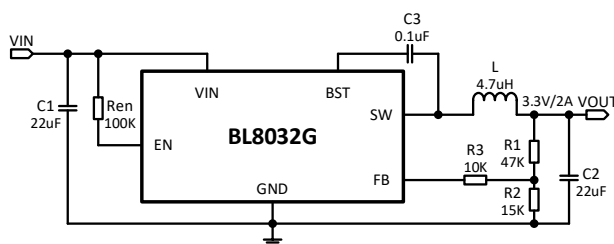
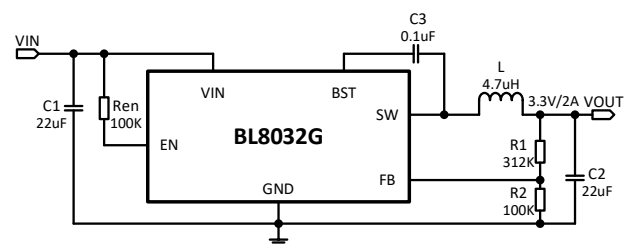

Figure 1
Figure 2
2) The resistance R3 in Figure 1 makes the loop more stable. If it isn't used, the resistance R1, R2 should be adjusted(See Figure2.). The value of R1 is recommended to be about 300KΩ.